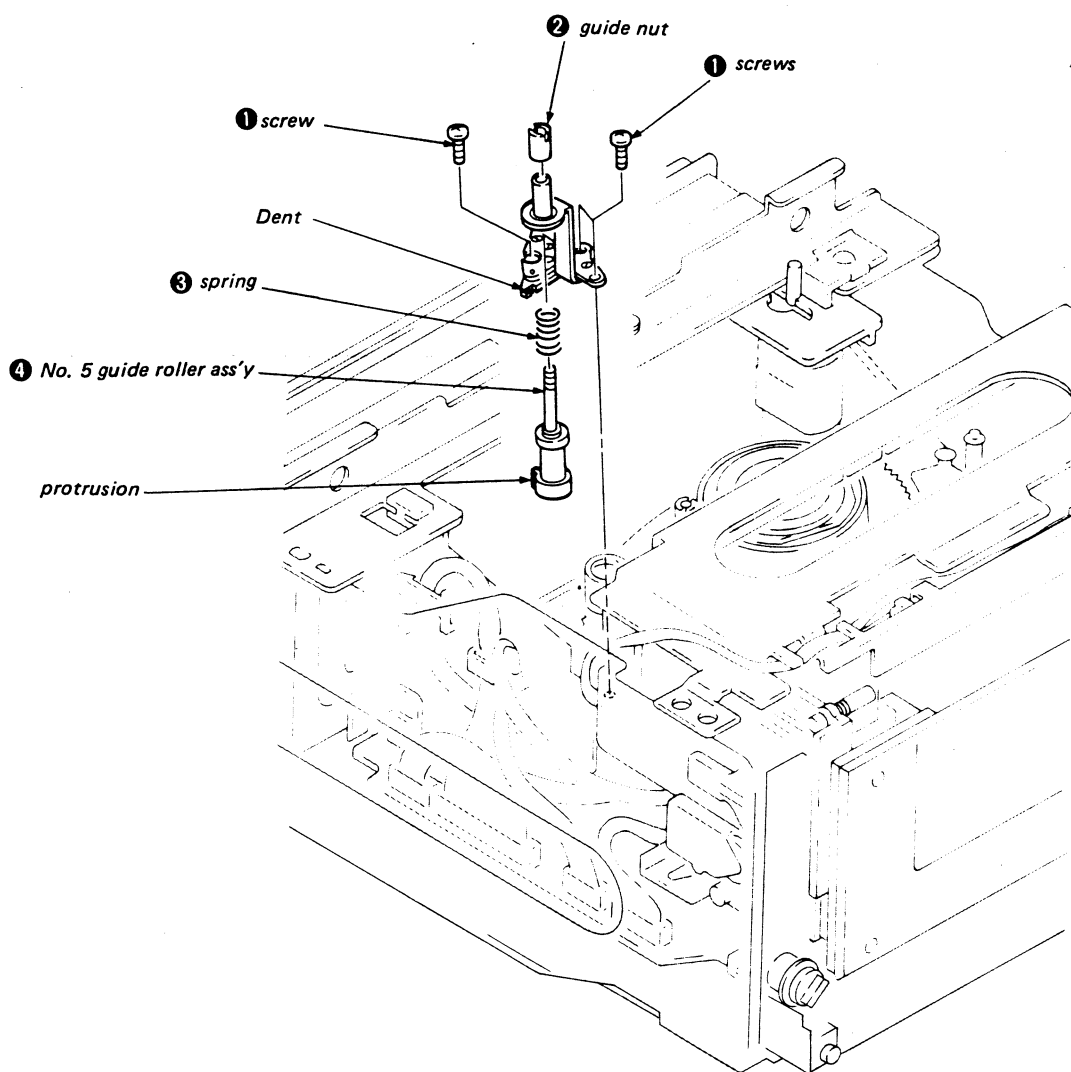

Fig. 3-49.
- 1) Remove the three screws ① and No. 5 guide assembly.
- 2) Remove guide nut ②, spring ③ and No. 5 guide roller assembly ④. (Fig. 3-49)
- 1) Insert spring ③ into No. 5 guide roller assembly ④, engage the bottom section and tighten guide nut ②.
- 2) Mount No. 5 guide assembly and tighten the three screws ①. (Fig. 3-49)